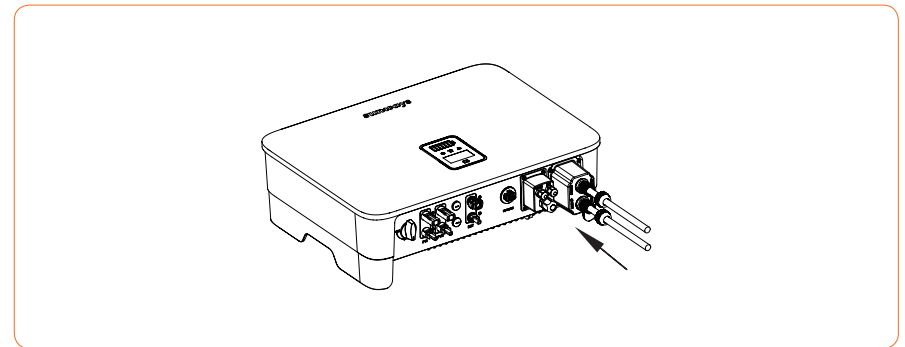

Figure 4-33
⑦ Screw up the rubber ring and anti-water cap to make sure the AC connector is well sealed, as shown in Figure 4-33: